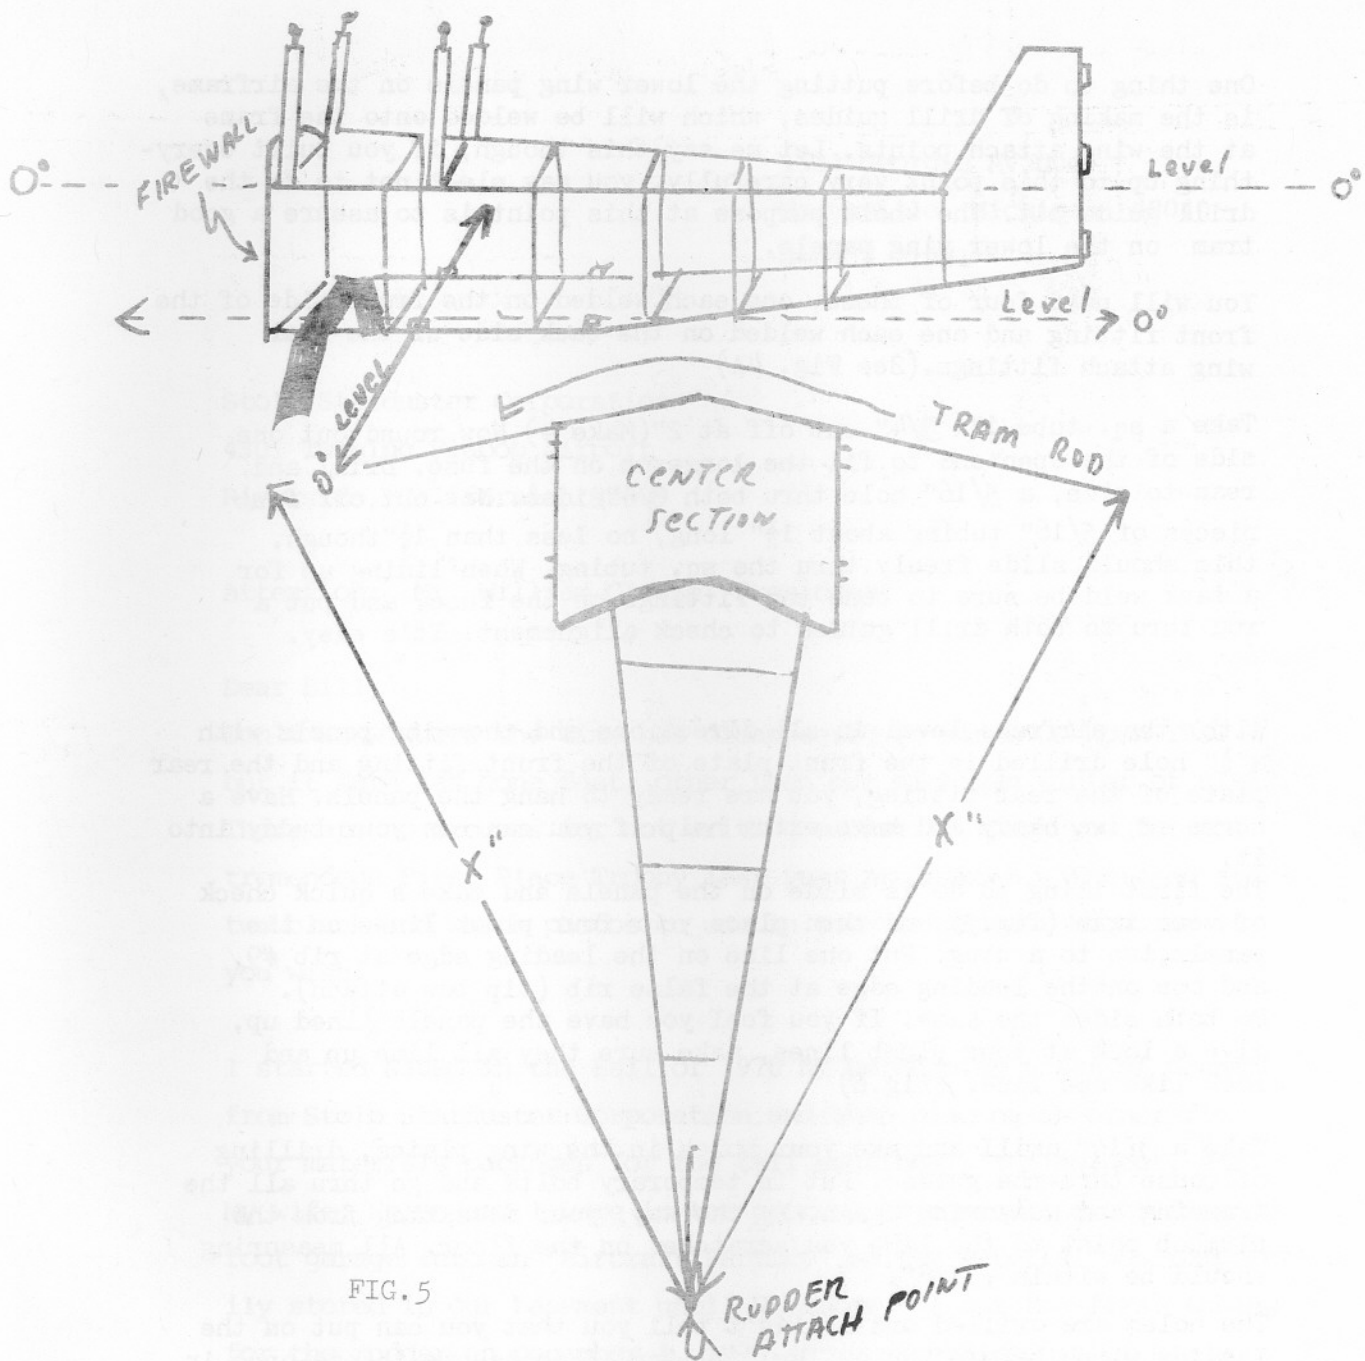

FIG. 5
The center section is now placed on the cabanes, which of course are in proper position on the fuselage. I find it easier to do your trammng of the center section at this time, although you can catch it later. To do this requires an arm to be run off the leading edge, say six (6) feet. It sticks out where the wing would be. Take a tape and measure from the end of your Tram rod back to the upper rudder pin hinge, on the fin. Mark down the number and repeat the process on the other side. (see fig. 5) Move your cabane adjustments until you have a reading that is within 1/8 th inch. When your center section is level in both directions and is also squared to the longitudinal axis of the aircraft, Take note to the spaces on either side of the bolt attach points. Measure these spaces and make spacers from bushing stock. Don't forget, label or number them for easy I.D. later in the game.
The first thing to do is slide on the panels and make a quick check of your tram (fig.5) and then place your four plumb lines on the panels, two to a wing. Put one line on the leading edge at rib #9, and one on the leading edge at the false rib (tip bow attach). Do both sides the same. If you feel you have the panels lined up, give a look at your plumb lines, make sure they all line up and look like one line. (fig.6)